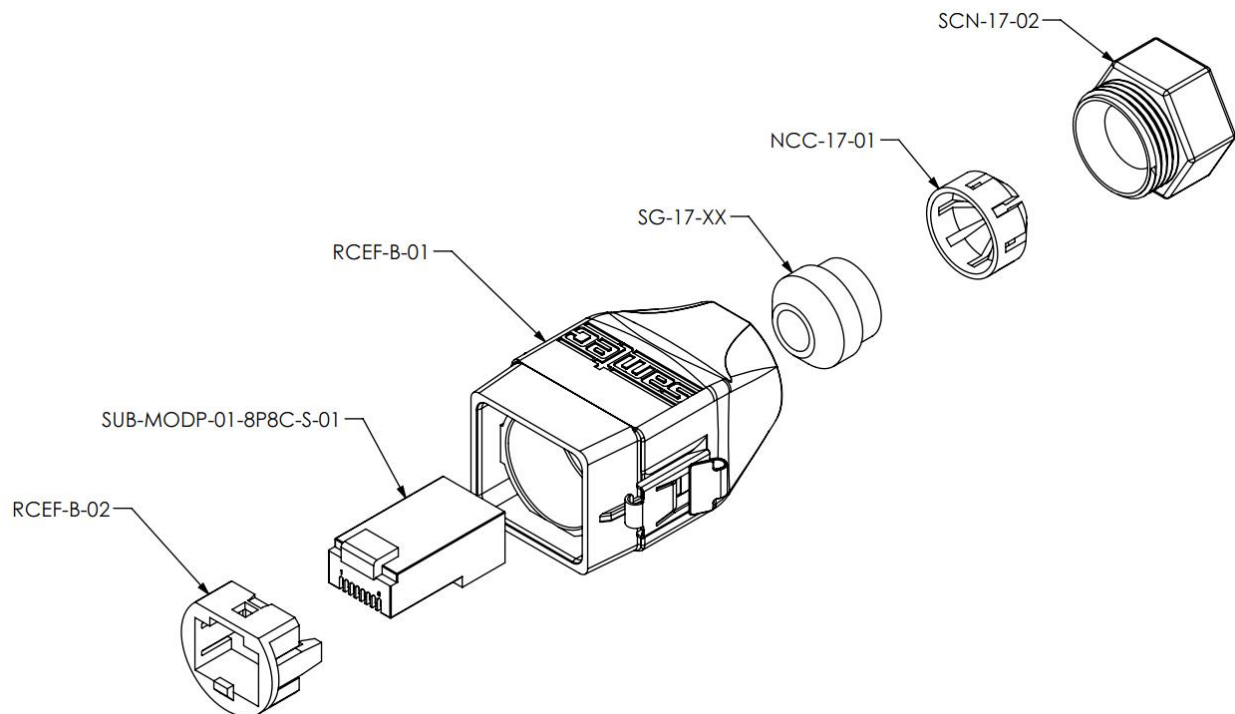

Figure 4.2 Waterproof connector assembly
- ☐ See **Figures 4.2 and 4.3** for assembly.